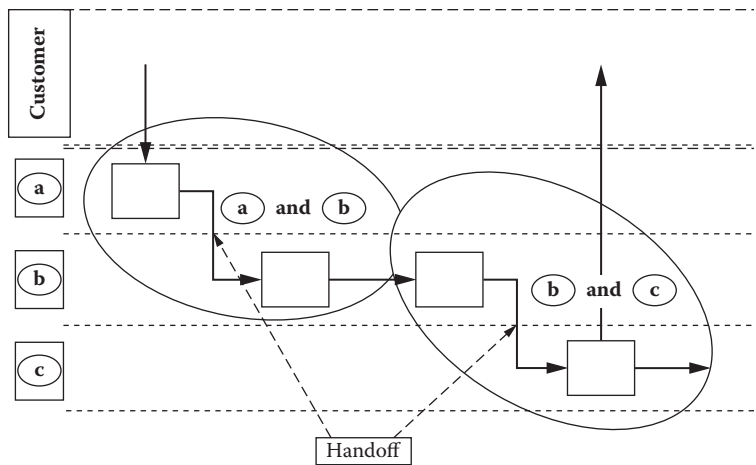

Figure 5.15 Internal supplier–customer relationships involve a handoff from one internal entity to another internal entity.
11. This is the pattern of *internal* supplier–customer relationships (Figure 5.15).